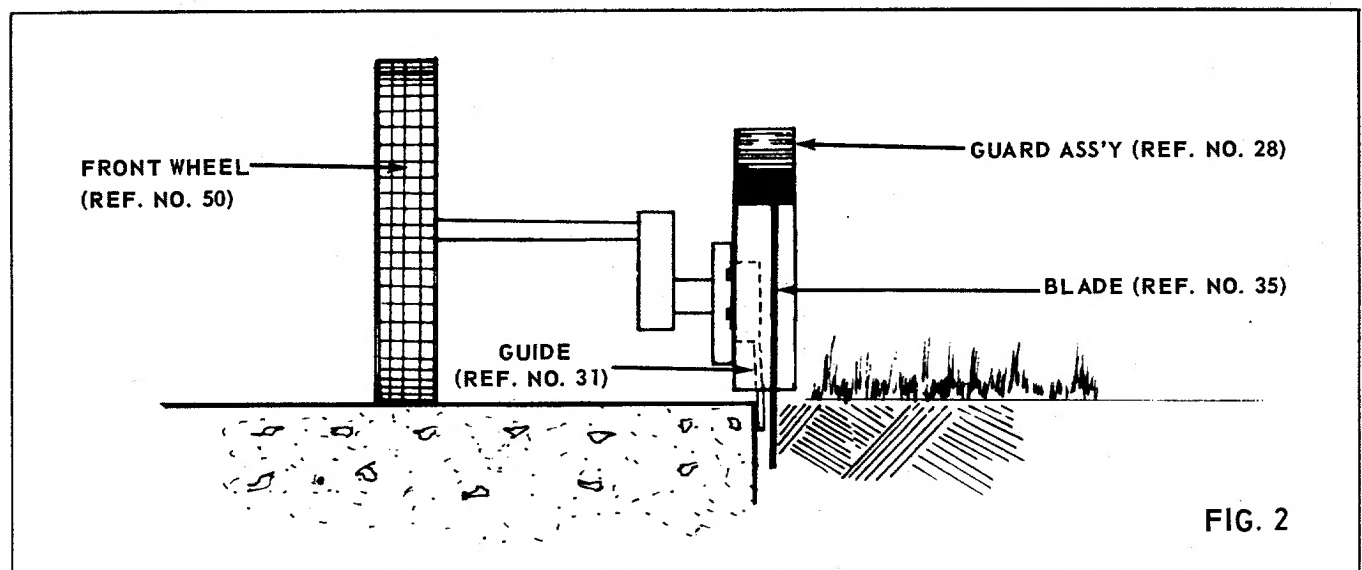

FIG. 2
4. Be sure guide (ref. no. 31) rides against the walk (see fig. 2) below.
5. Guard ass'y. (ref. no. 28) is adjustable horizontally. If operator is on walk as in fig. 2; pull guard ass'y. (ref. no. 28) to the right so that the inside of guide (ref. no. 31) is to the walk. If operator is on lawn, pull the guard ass'y. (ref. no. 28) to the left. This allows the outside of guide